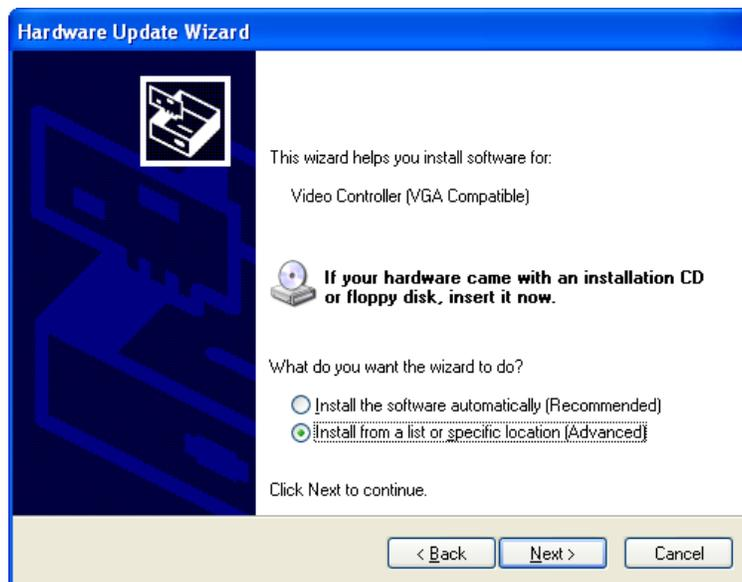

Figure 6-7: Install Options Window
Step 10: The following window (**Figure 6-7**) appears.